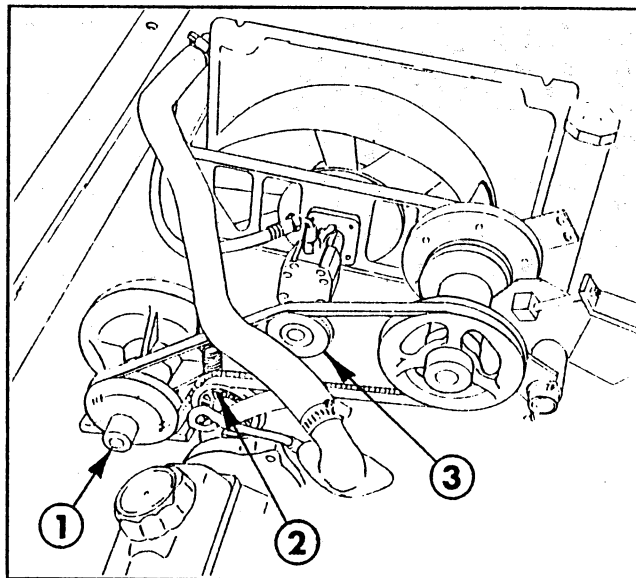

FIG. 4
12. Install the pump drive belt on the pulleys as shown in FIG. 4. After installation of the belt, loosely mount the backside idler pulley in the long slot on the idler pivot bracket using 3/8" x 2" carriage bolt, 3/4" spacer, hex nut, lockwasher and (2) flat washers. With the belt on the topside of the idler pulley, slide the pulley up until all the slack is removed from the belt, then tighten the nut on the carriage bolt. To apply tension to the belt, place the inside idler pulley under the belt. See FIG. 4.